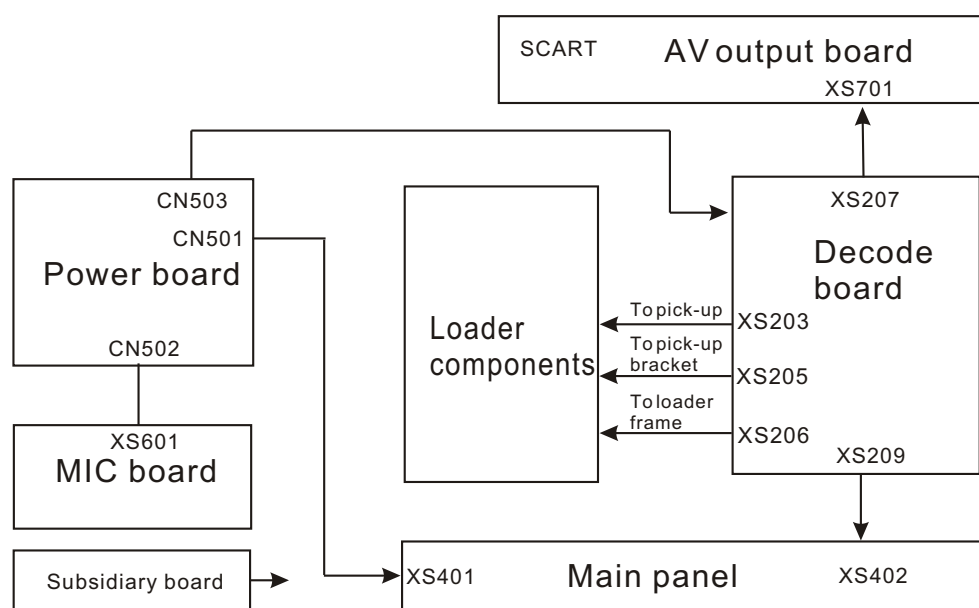

Figure 3.1.1.1 PCB components compose block diagram
2. As shown in the figure 3.1.1.2, it is pin description of the block diagram composed by whole set